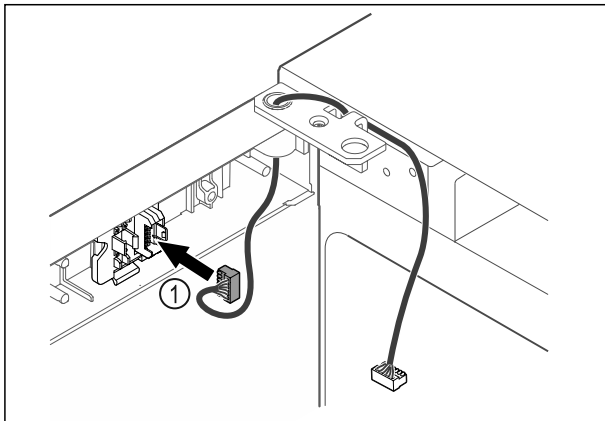

Fig. 42
- ▶ Put the plug Fig. 42 (1) in the plug holder.